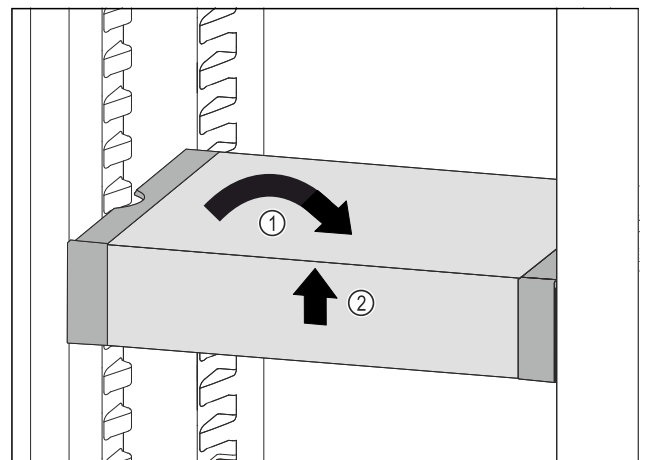

Fig. 96
- Set VarioSafe straight. Fig. 96 (1)
- Lift VarioSafe at the front. Fig. 96 (2)